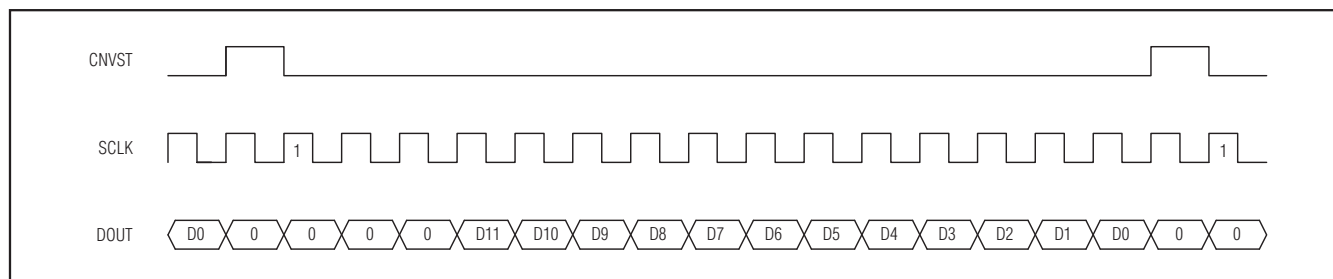

Figure 17. DSP Interface—Continuous Conversion
The MAX1276/MAX1278 can also be connected to the TMS320C54_ by using the data transmit (DX) pin to drive CNVST and the CLKX generated internally to drive SCLK. A pullup resistor is required on the CNVST signal to keep it high when DX goes high impedance and 0001hex should be written to the DXR continuously for continuous conversions. The power-down modes may be entered by writing 00FFhex to the DXR (see Figures 17 and 18).
ters should be configured for late framing (LAFR = 1) and for an active-low frame (LTFS = 1, LRFS = 1) signal. This is also the best way to enter the power-down modes by setting the word length to 8 bits (SLEN = 1001). Connect the VL pin to the ADSP21_ _ _ supply voltage when the MAX1276/MAX1278 are operating with a supply voltage higher than the DSP supply voltage (see Figures 17 and 18).